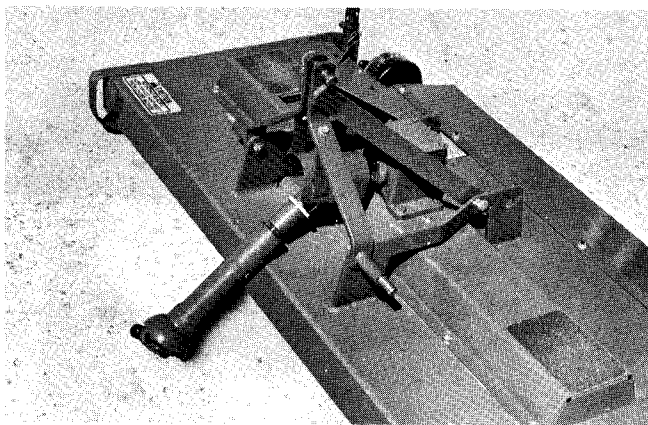

Fig. 58 — PTO Shaft Installation
2. Install front portion of PTO shaft onto rear portion by sliding the two together, Fig. 58.